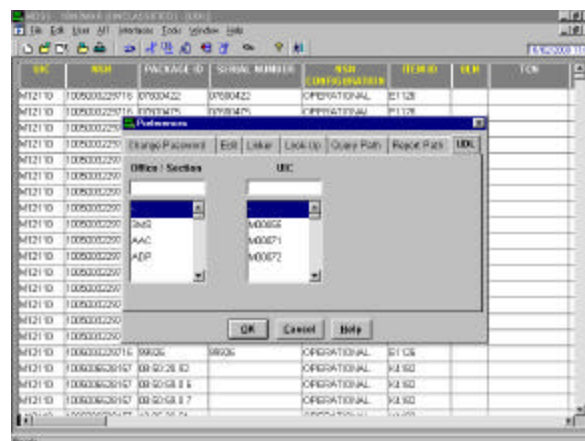

Figure 6
STEP 3 - Select the UDL tab (see figure 6)